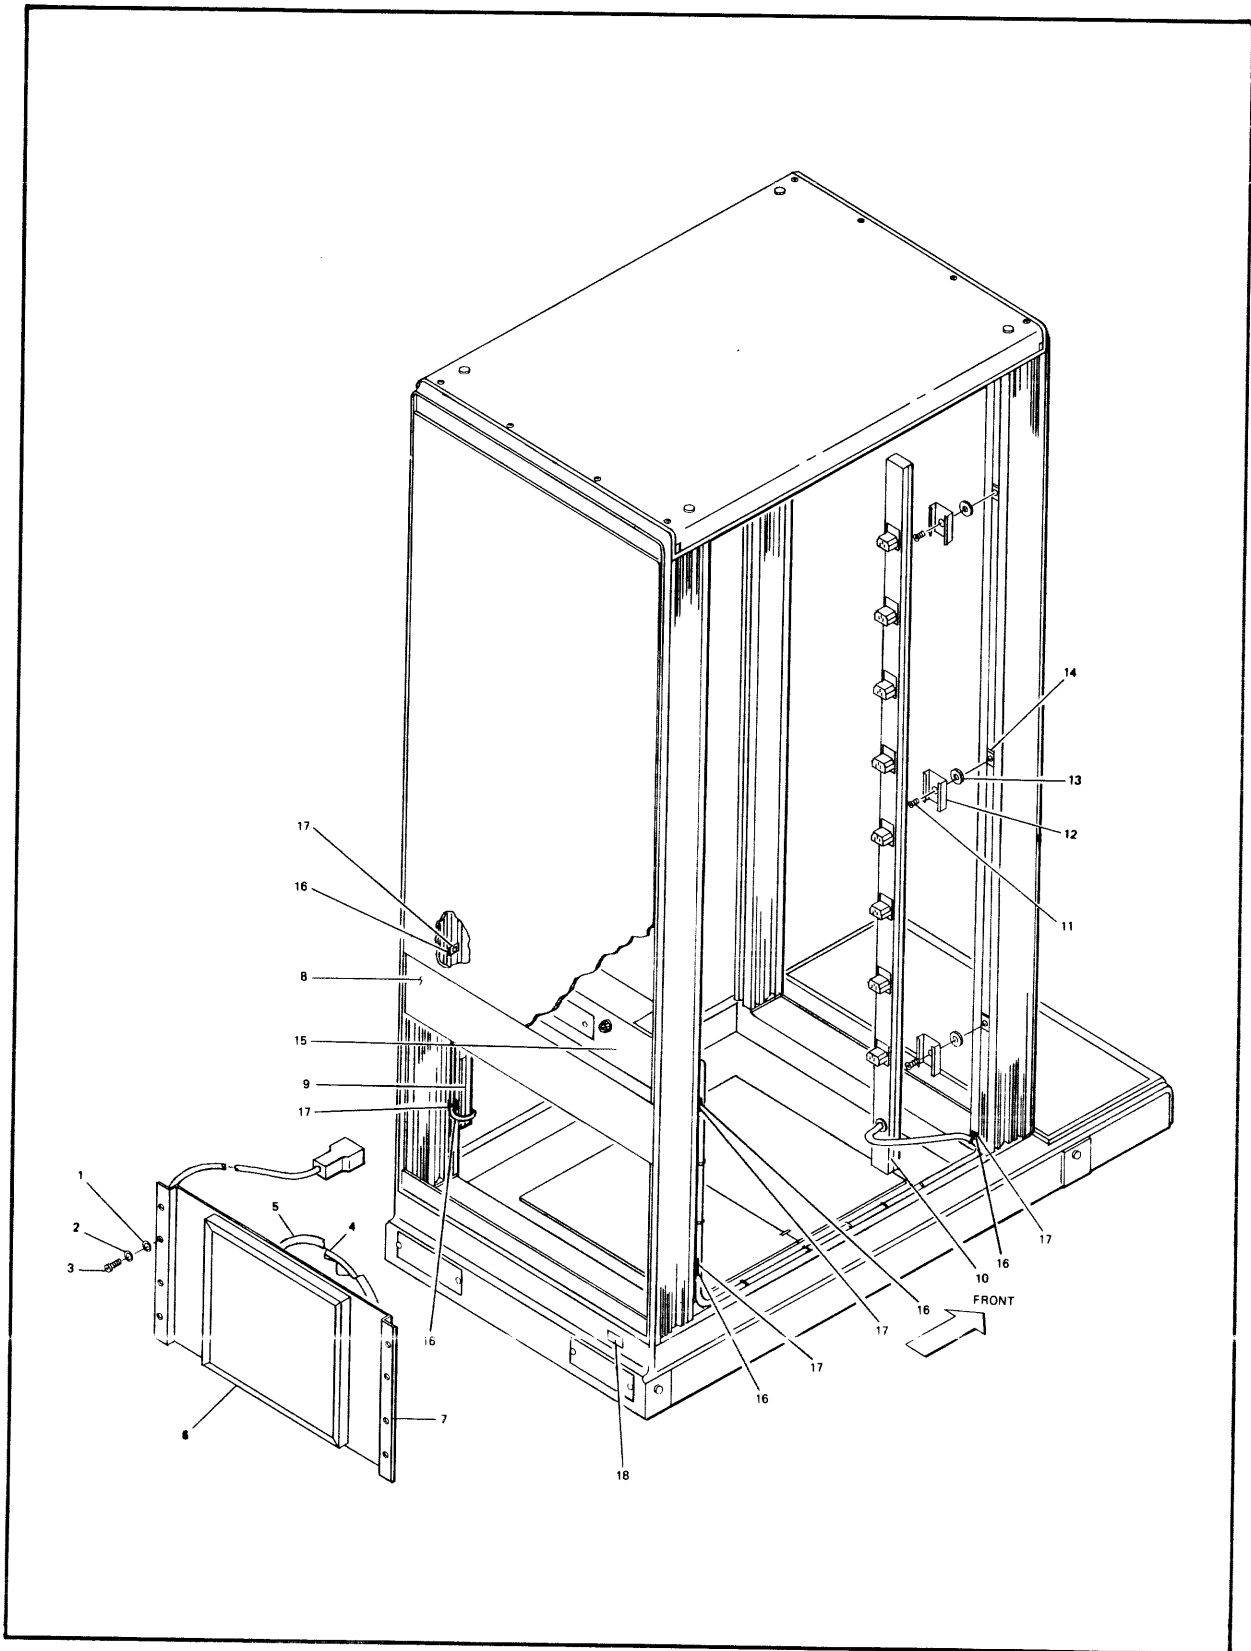

Figure 2-9. HP 30390A Cabinet (Option 001), Replaceable Parts
- e. (B) Remove rear door.
- f. (B) Remove front and rear nameplate holders (23) by removing two screws (22) from each.
*Note: In figure 2-9, the side panels to be removed in step g are not shown. Opposite panel on one of the cabinets is shown for general identification purposes.*
- g. (B) Remove side panel (7) from mating side by removing six screws (6).
- i. Affix bottom foam strip (17) to the base of the new cabinet. (Align the lower edge of the strip with the top ridge that runs horizontally about half way up on the side of the base. The ends of the strip should extend equally beyond the inside edge of the columns).
- j. Affix the front and rear foam strips (4) to the columns of the new cabinet. (The outer edges of the strips should be in the same position as the edges of the side panel were in prior to removal. The bottom of the strips should align with the bottom edge of the bottom strip.)
- k. Affix the top foam strip (24) to the edge of the top cover of the new cabinet. Center the strip between the front and rear strips.
- l. Adjust the leveling jacks on the mating side of the new cabinet until the bolt holes (15) in the sides of the bases are aligned vertically.
- n. Remove the hole covers (16) from the mating side bolt holes. Bolt the two bases together with two bolts (14), two lock washers (18), and two nuts (19). Tighten finger tight only.
- b. Remove the fan mounting panel (7, figure 2-9) by removing eight screws, lockwashers, and flat washers.
- g. Remove the blank panel (8, figure 2-9) by removing four screws, cup washers, and filler cup washers.